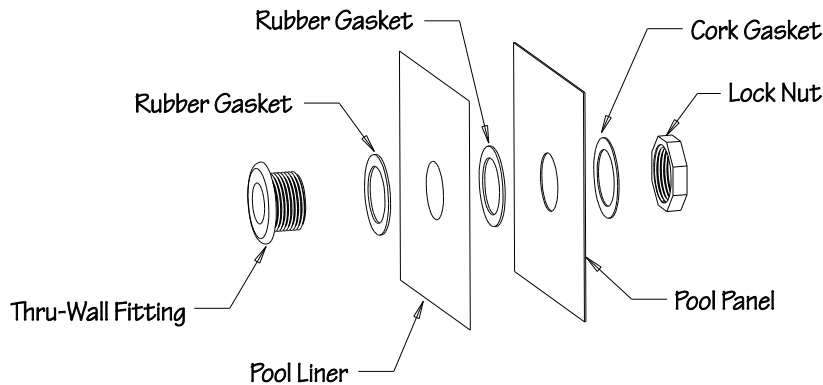

Fig 14
14. When installing the new hydraulic hoses, follow the diagram below for the orientation of the gaskets on the hose thru-wall fittings (Fig 14).